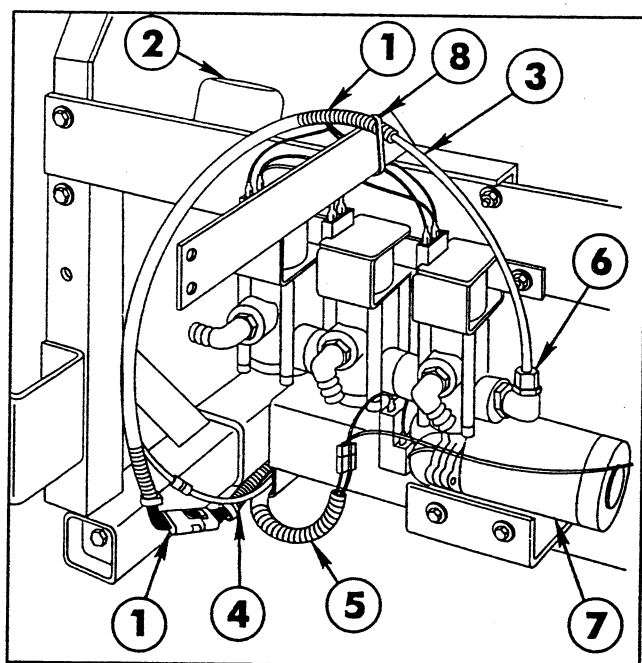

FIG. 24
1. Connect the plug on the Flow Control Wiring Harness to the mating plug from the Control Valve, as shown in FIG. 24. Then make connections to the three Electric Solenoid Valves as shown in DETAIL B of the Electrical Schematic on page 3.
1. Splice the tubing from the Carrier Control Wiring Harness to the tubing from the Flow Control Wiring Harness. See FIG. 24.